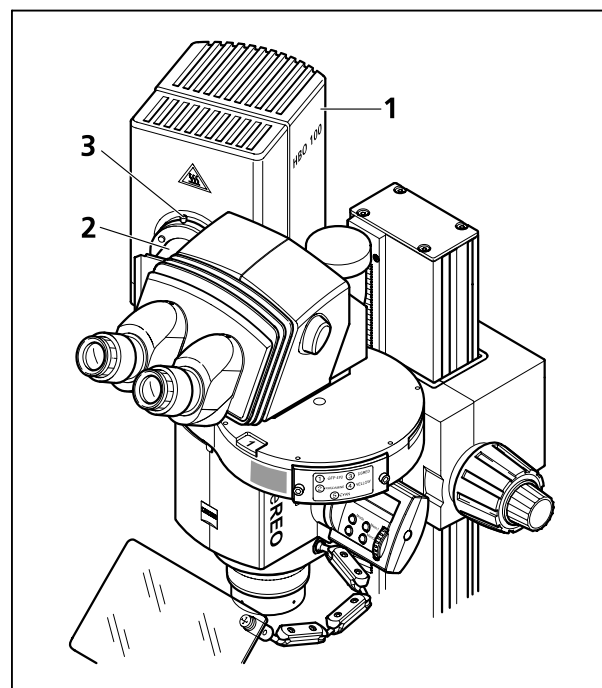

Fig. 26 Connecting the HBO 100 illuminator to the PentaFluar S/HBO 100
- Loosen clamp screw (Fig. 26/3) on the mounting port (Fig. 26/2) of the PentaFluar S/HBO vertical illuminator.
- Attach the HBO 100 illuminator (Fig. 26/1) to the mounting port, align it and tighten the clamp screw.